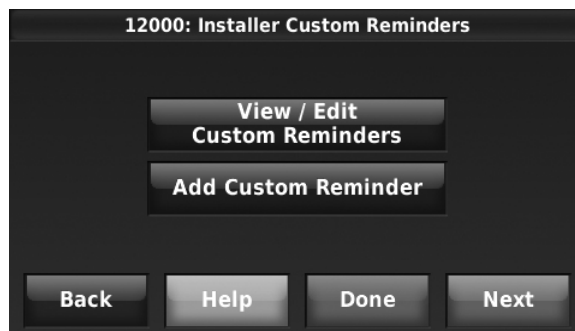

Fig. 157.
1. Press Add Custom Reminder (see Fig. 157).